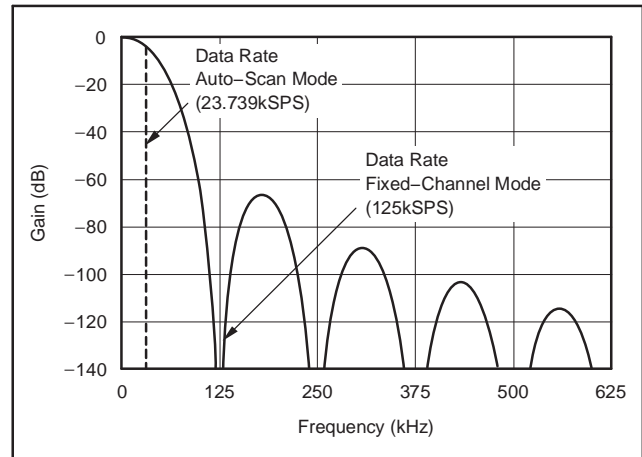
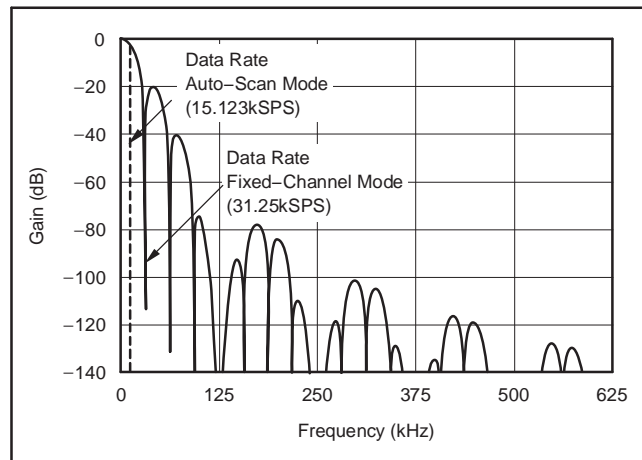

Figure 43. Frequency Response, DRATE[1:0] = 11
Figure 44. Frequency Response, DRATE[1:0] = 10
The low-pass filter has notches (or zeros) at the data output rate and multiples thereof. The  $\text{sinc}^5$  part of the filter produces wide notches at  $f_{CLK}/128$  and multiples thereof. At these frequencies, the filter has zero gain. Figure 43 shows the response with no post averaging. Note that in Auto-Scan mode, the data rate is reduced while retaining the same frequency response as in Fixed-Channel mode.
Figure 44 shows the response with averaging set to 4 (DRATE[1:0] = 10). 4-reading, post-averaging produces three equally-spaced notches between each main notch of the  $\text{sinc}^5$  filter. The frequency response of DRATE[1:0] = 01 and 00 follows a similar pattern, but with 15 and 63 equally-spaced notches between the main  $\text{sinc}^5$  notches, respectively.
(2) Num\_Ave is the number of averages performed by the digital filter second stage.
(3) In Auto-Scan mode, the data rate listed is for a single channel; the effective data rate for multiple channels (on a per-channel basis) is the value shown in Figure 43 and Figure 44 divided by the number of active channels in a scan loop.
Referring to Figure 43 and Figure 44, frequencies present on the analog input above the Nyquist rate (sample rate/2) are first attenuated by the digital filter and then alias into the passband.